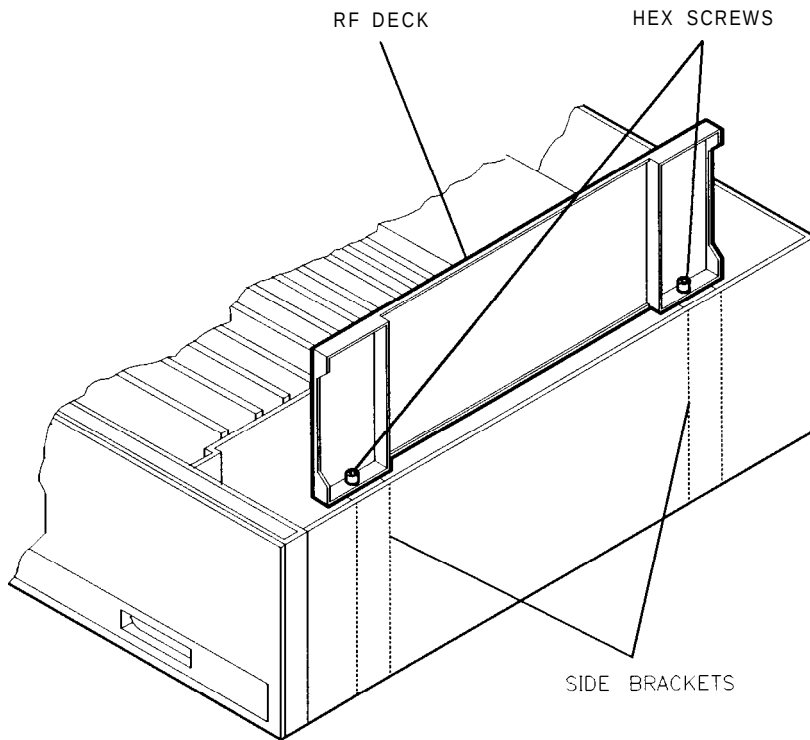

Figure 7-24. RF Deck in the Service Position
7. For troubleshooting, insert an analog extender board into the motherboard connector for the RF deck. Place the RF deck on the extender board and use the two hex screws to attach the deck to the synthesizer frame (service position). If you are not troubleshooting and are lifting up the RF deck for disassembly purposes, attach the deck to the synthesizer without using the extender board. Refer to Figure 7-24.